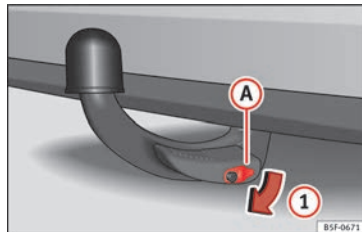

Fig. 221 Removing the lock cover.
- Remove cover ① from the lock in the direction of arrow ① » Fig. 221.